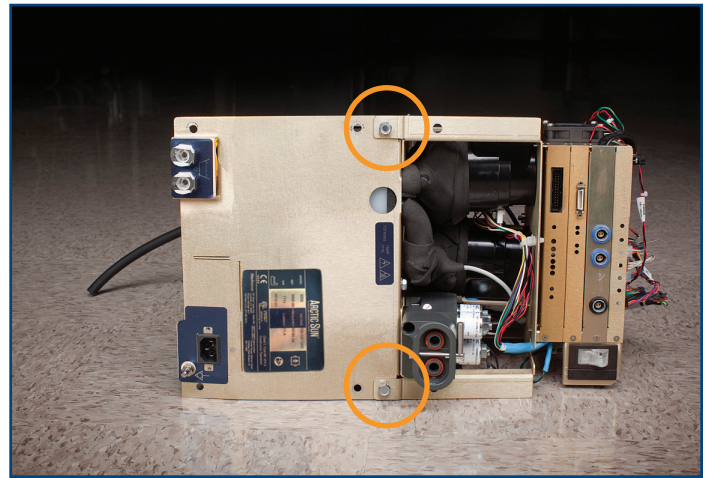
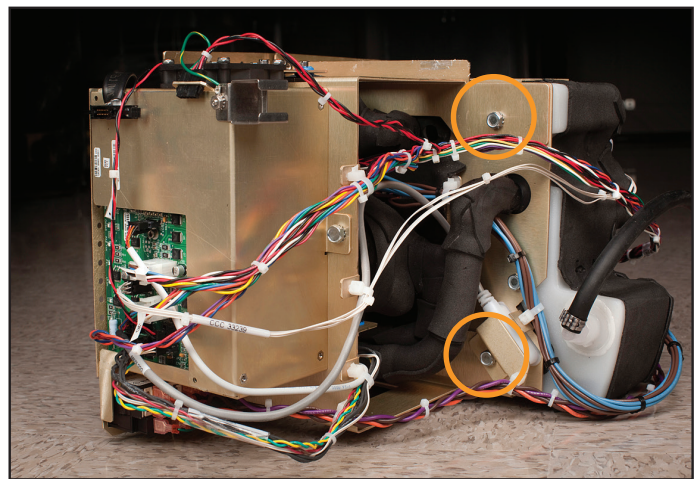

Fig. 8-24 Internal components prior to being separated into two sections (front view)
Fig. 8-25 Internal components (rear view); circles indicate bolts to remove (Step 1)
1. Remove the four bolts as shown (see Fig. 8-24 and Fig. 8-25).